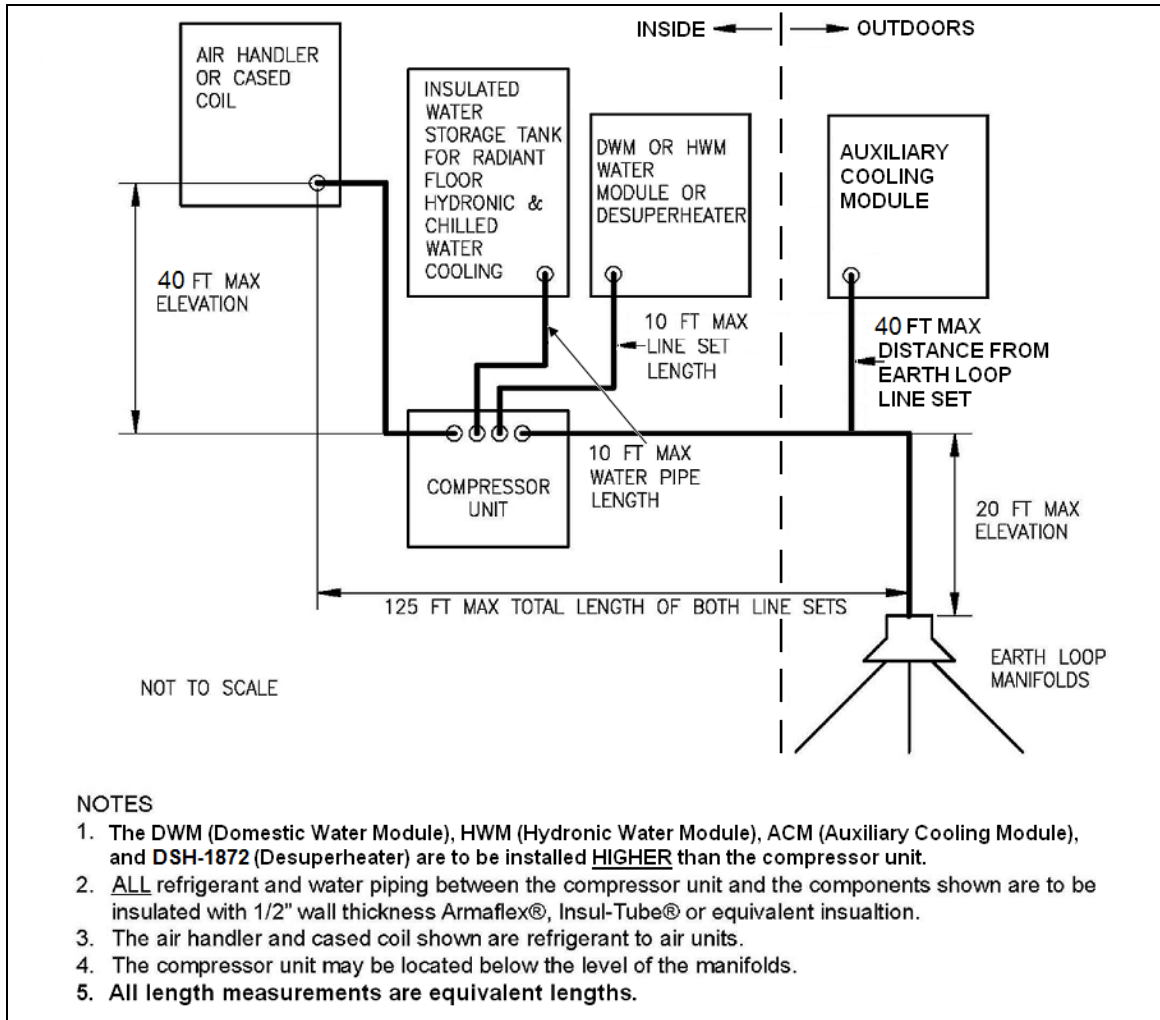

Figure 2. General System Layout
Guidelines for the general layout of the system components is shown in Figure 2. Before placing the compressor unit (outside or indoors) review the guidelines in Figure 2.
- Where the total length of refrigerant line sets (from manifolds to compressor and from compressor to air handler) do not exceed 125 feet, as shown in Figure 2.
- Where the compressor unit is no more than 20 feet higher than the earth loop manifolds. Compressor unit may be located lower than the earth loop manifolds. See Figure 2.